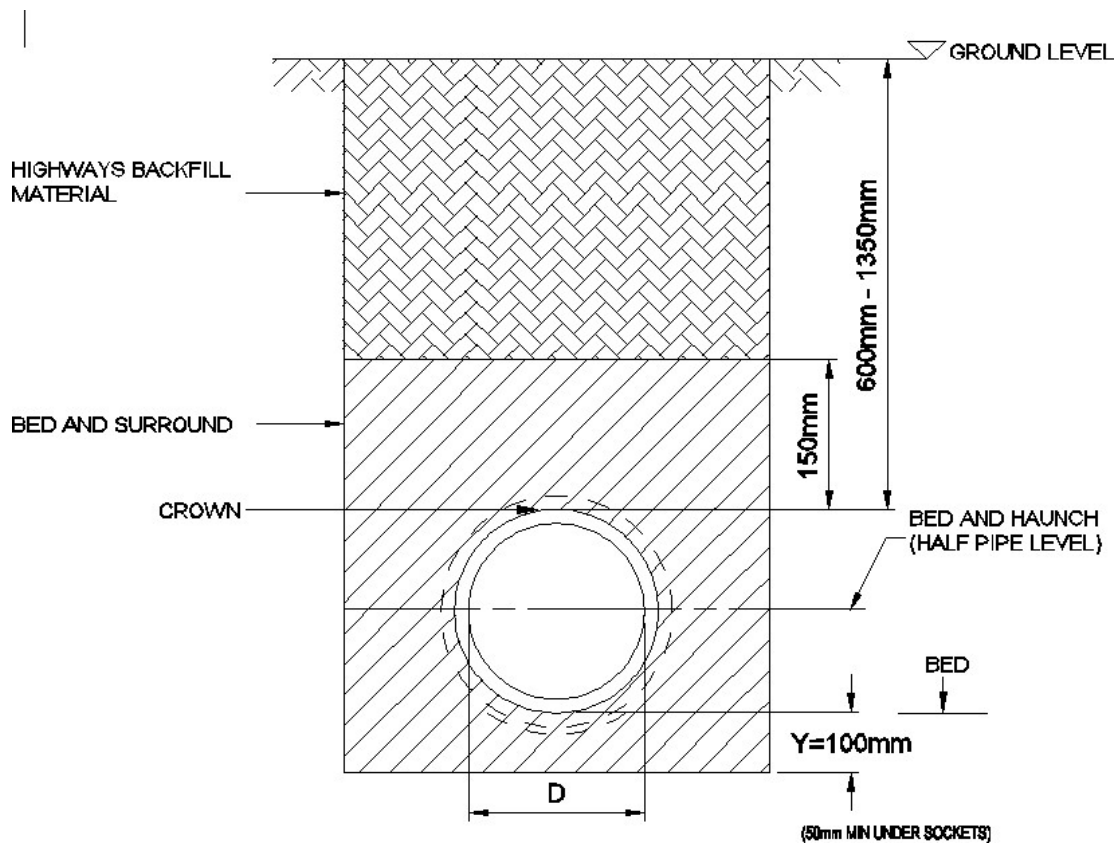

Figure 1 Diagram Showing the Range of Depths for Affinity Water's Pipes
5. Typically water mains are laid at a depth of 900mm. The exact depth of a specific asset may be unavailable but can vary between 750mm and 1500mm as shown in Figure 1. There may however be instances where pipelines cross other utilities' plant, roads, railways or rivers where our pipes could be significantly deeper, occasionally mains are laid at shallower depths. Service pipes normally have a depth of 750mm but again this may vary and their position can be inferred from the position of stop taps and meter box covers. In all situations the potential existence of small supply pipes should always be anticipated and all care taken to ensure they are located prior to the use of mechanical equipment.